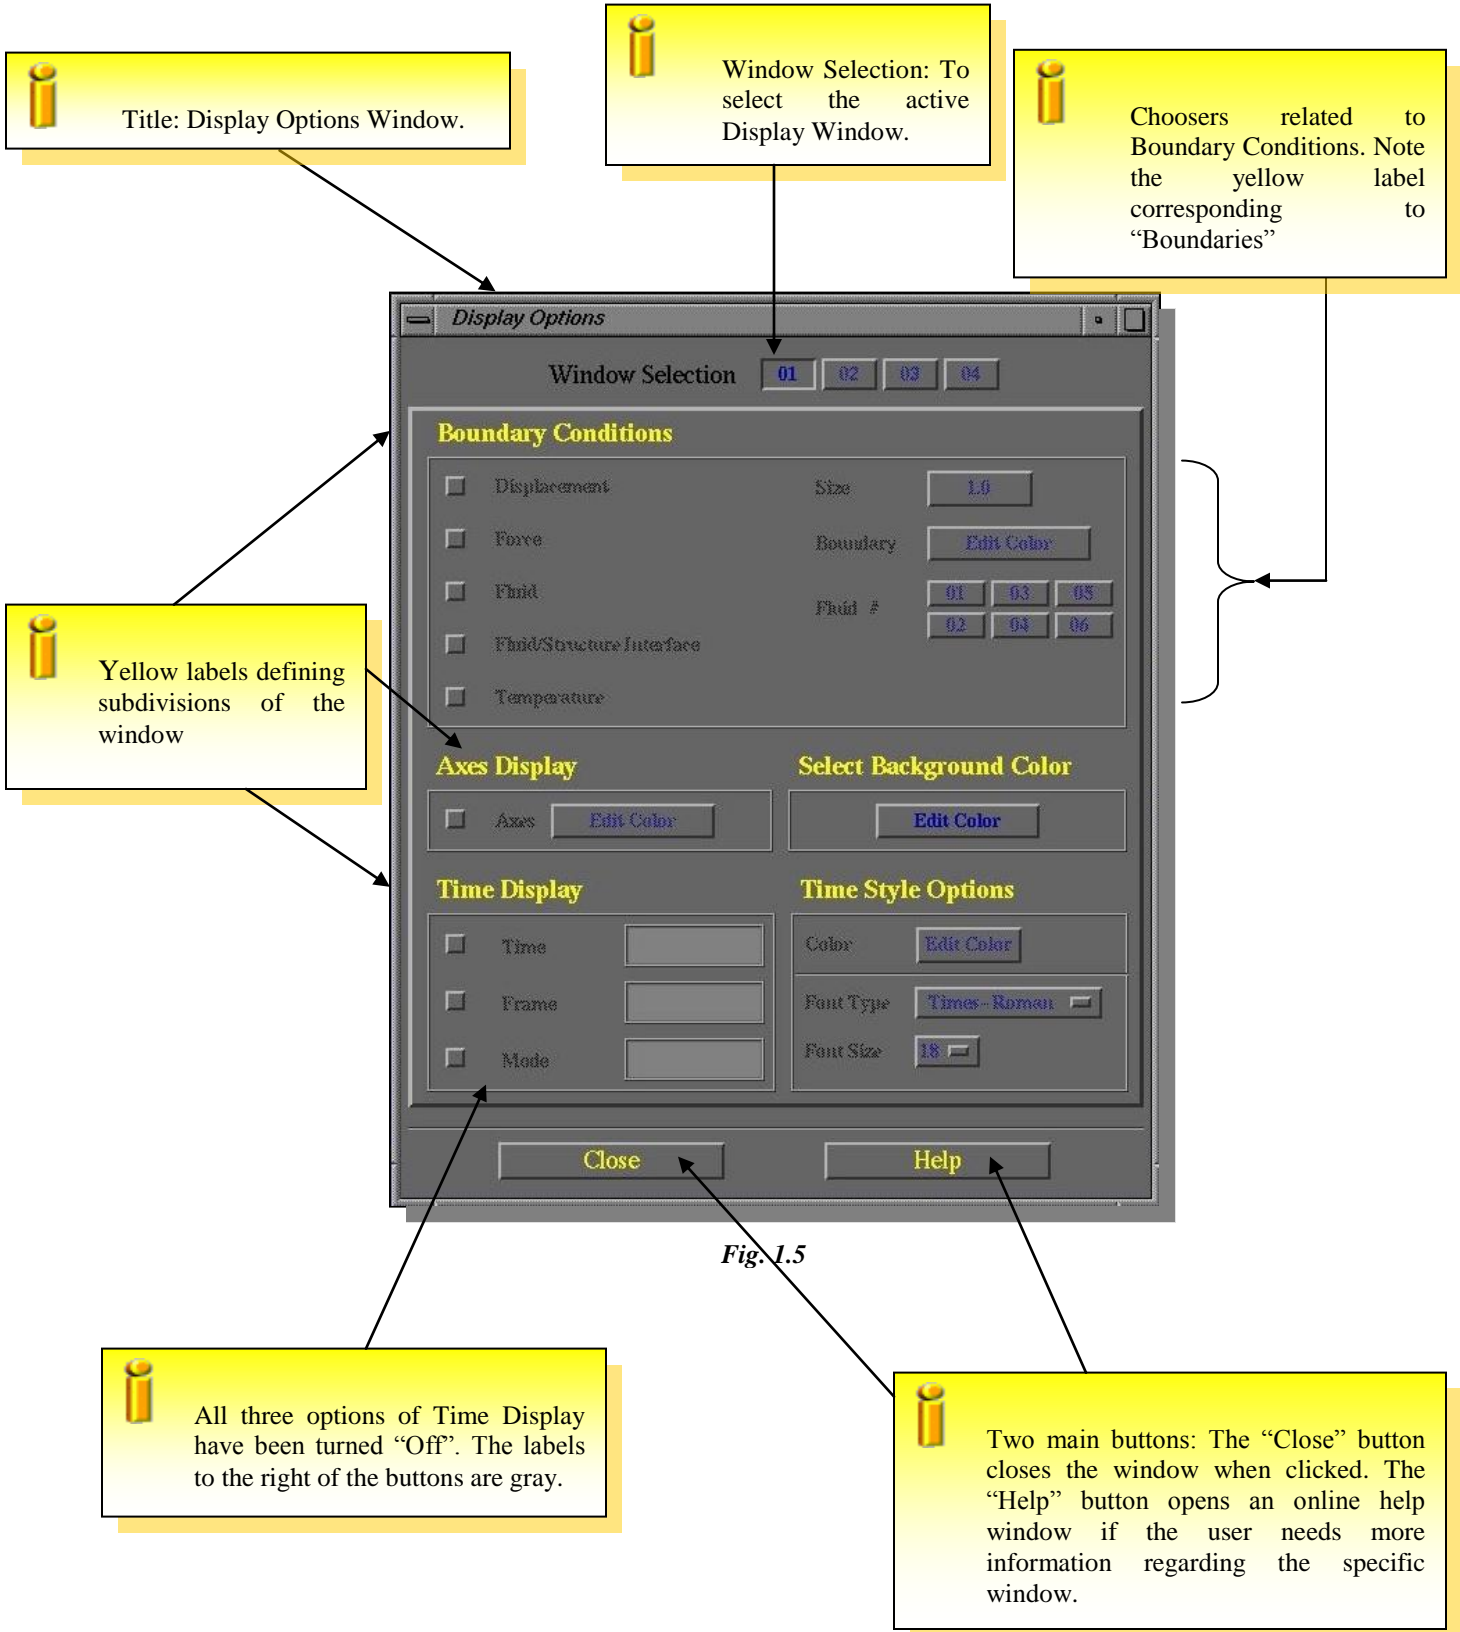

Fig. 1.5
- A window has a title that is displayed at the top of the frame as shown in figure 1.5. This label refers to the general purpose of the window.
Figure 1.5 shows a typical option window.